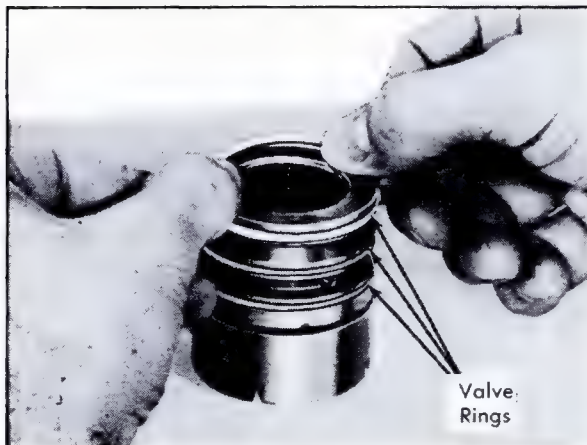

Fig. 9-30 Installing Valve Rings
1. If new valve body back-up O-ring seals are necessary, lubricate them with power steering fluid. Assemble in ring grooves on valve body. Do not allow seals to become twisted. If new valve rings are necessary, lubricate them with power steering fluid and assemble valve rings in ring grooves over back-up O-ring seals by carefully slipping rings over valve body, Fig. 9-30. Rings may appear to be loose in grooves, but the heat of the oil after assembly will cause them to tighten.